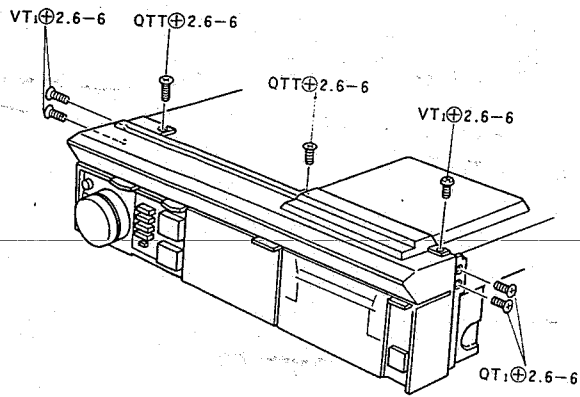

Fig. 6
3) Remove 7 screws. (See figure 6)